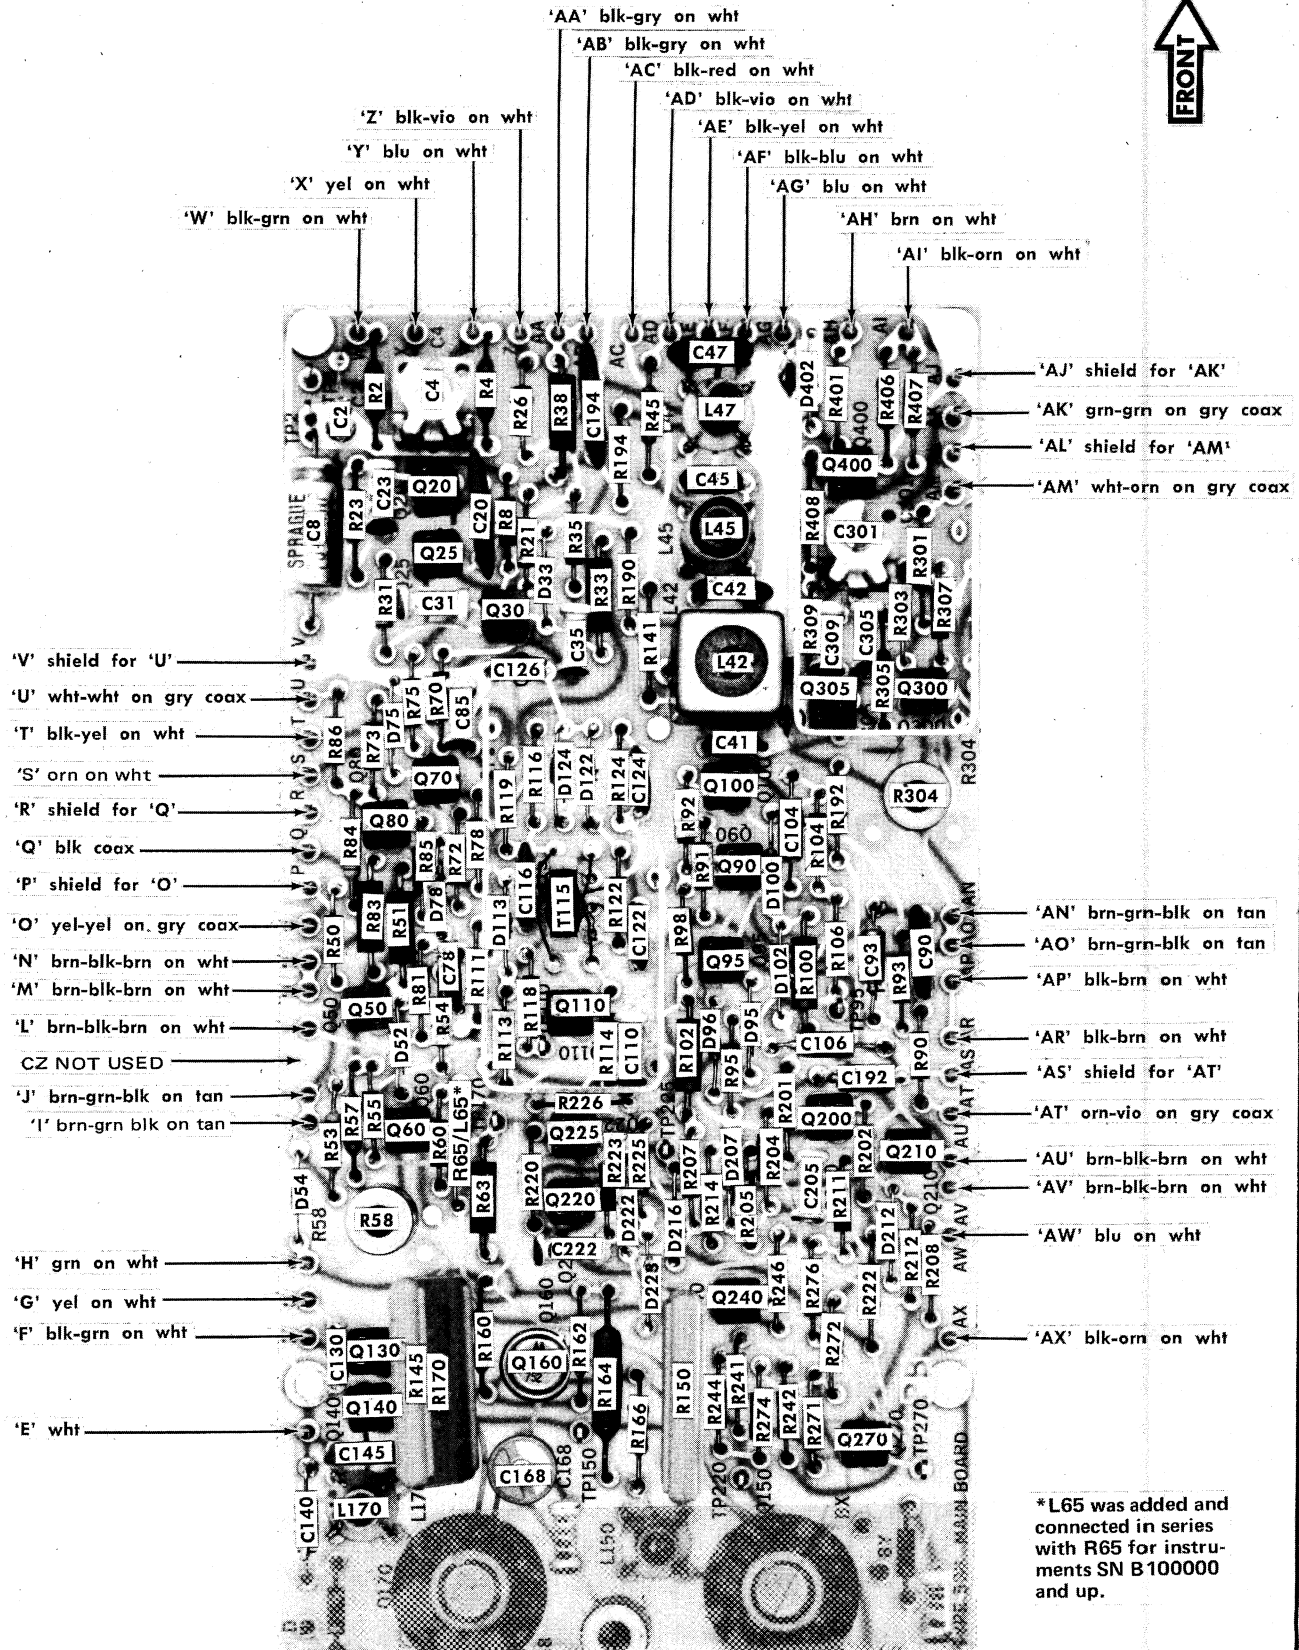

Fig. 4-12. Partial top view of Main board showing components and wire color codes for instruments SN B100000-up.
1. Disconnect all pin connectors on both sides of the board. (See Fig. 4-12 through 4-15.)